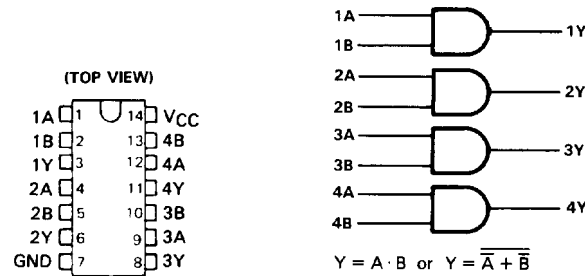
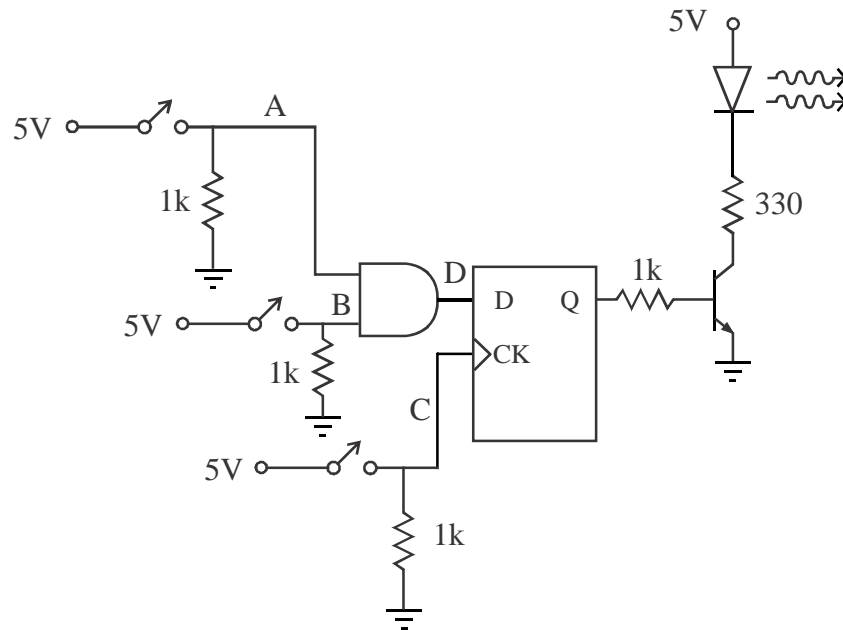
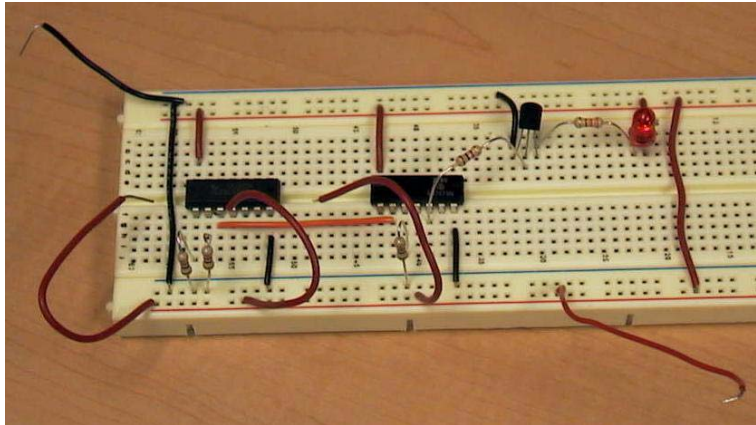
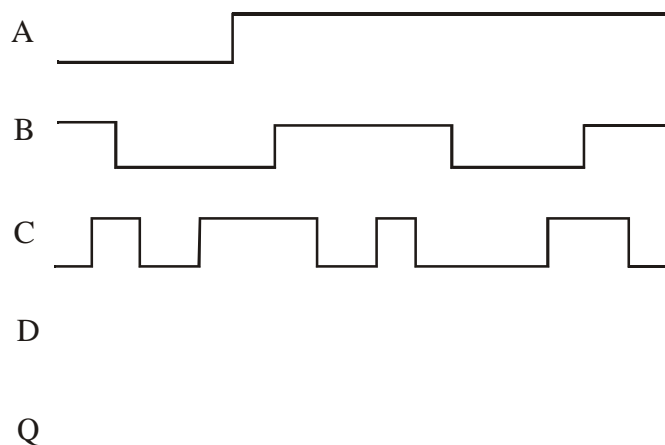

Figure 7.5 Pin-out and schematic symbol diagrams for the 7408
Figure 7.8 Circuit Schematic with Switches, Logic Gate, and Flip-flop
Figure 7.9 Photograph of the Partially-Completed Circuit
Figure 7.10 Positive-Edge-Triggered Circuit Timing Diagram
Figures 7.5 through 7.7 show pin-out and schematic diagrams from the datasheets for various TTL devices used in this exercise. Note that the 7408 includes four AND gates numbered 1 through 4 (e.g., $1Y = 1A \cdot 1B$). The 7474 includes two positive edge-triggered data flip-flops, and the 7475 includes four positive level-triggered data flip-flops (AKA "data latches"). **Note that the 7474 has preset and clear features. Because these features are active low, these pin should be connected to 5V to deactivate them.**
- (1) Using the datasheet pin-out diagrams (Figures 7.5 through 7.7), draw a complete and detailed wiring diagram (showing all connections and all pin numbers) for the circuit schematic shown in Figure 7.8, using a 7474 positive edge-triggered flip-flop. Carefully **label and number all pins that are used on each IC, including power and ground**. You might find Figure 7.9 helpful as a reference because it shows a photograph of a partially-completed circuit.
Note - It is good practice to include a 0.1 μF capacitor across the power and ground pins of each IC (not shown in Figure 7.8 or Figure 7.9). This helps filter out transients that could occur on the power and ground lines during switching. The capacitors are especially important in more complicated circuits where a single power supply may be providing reference voltages and switched current to numerous components.
- (2) Using the detailed wiring diagram you created in Step 1, construct the circuit. Again, Figure 7.9 can be helpful as a reference because it shows the partially completed circuit; although, your main reference should be the wiring diagram you created in Step 1.
- (1) Explain the difference between the output of the two circuits you analyzed and tested. What is the reason for the difference?
- (2) Switches and buttons often experience switch "bounce," especially when contact is made (as opposed to broken). Did bounce affect the output Q of the circuits? If so, in what cases, and why? If not, explain why you think this was the case.
For the positive-edge-triggered circuit (Figure 7.8), assuming bounce occurs during every release of button C , draw a timing diagram showing how the output (Q) would respond for the A , B , and C traces shown in Figure 7.10.
For the timing diagram inputs shown in Figures 7.10 and 7.12, would you expect to notice any changes in the LED response if there were switch bounce during both the presses and releases of switches *A* and *B* (but not *C*)? Why or why not?